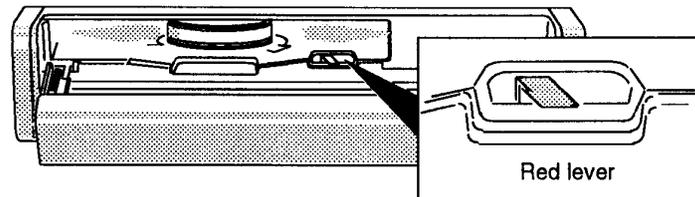

Figure 3-8 Manual Hub Unlock Lever
1. Open the door and locate the red-tipped lever at the front of the entrance. This lever is shown in Figure 3-8.